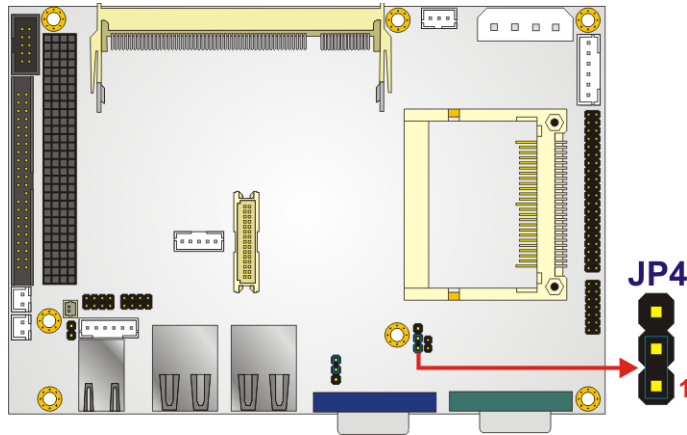

Figure 5-7: COM Port Setting Jumper Location
- Jumper Location:** See Figure 5-7
The COM Port Setting jumper location is shown in **Figure 5-7** below.